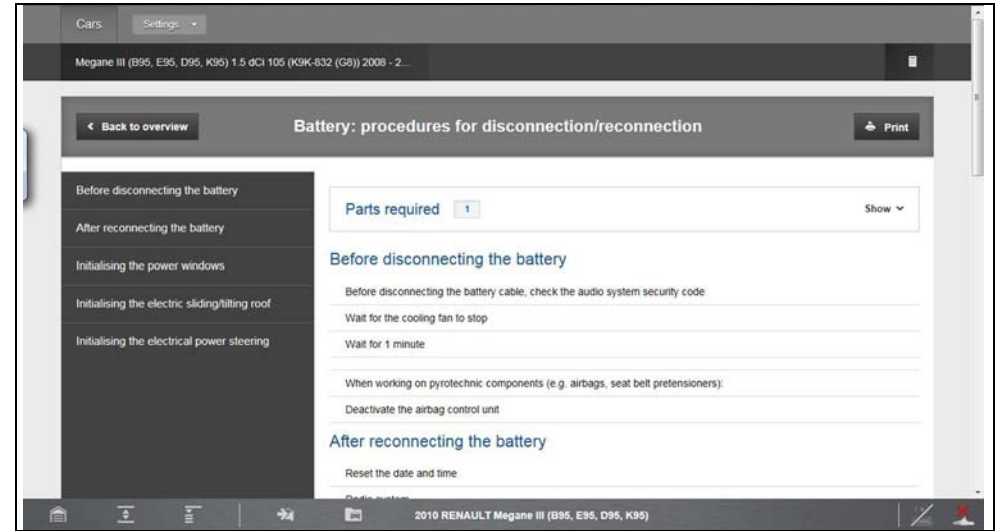

Figure 9-16
- **Maintenance Procedures** - (Figure 9-16) Instructions for common maintenance procedures.